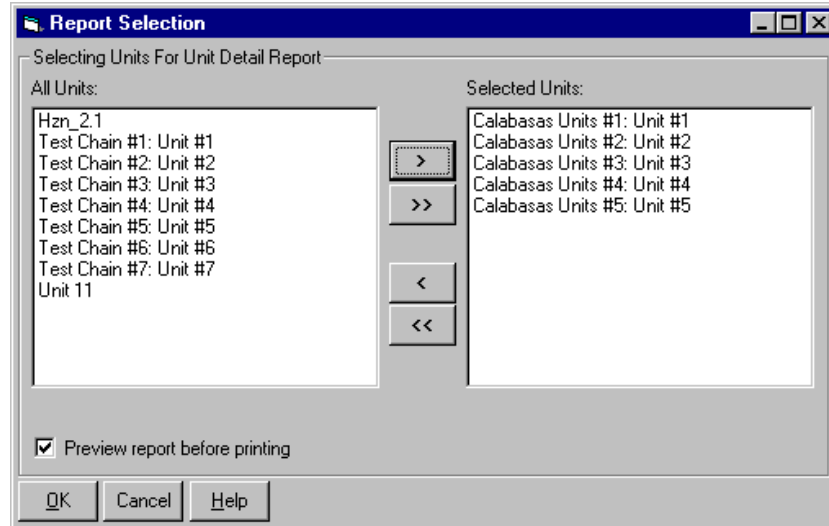

Figure 61: SPSWin Main Window Report Selection Menu
- 2 From the Report Selection window (see Figure 61), select one or more units from which you wish to view or print a report, then click on the right-pointing arrow button. The desired units will move from the left field to the right field.